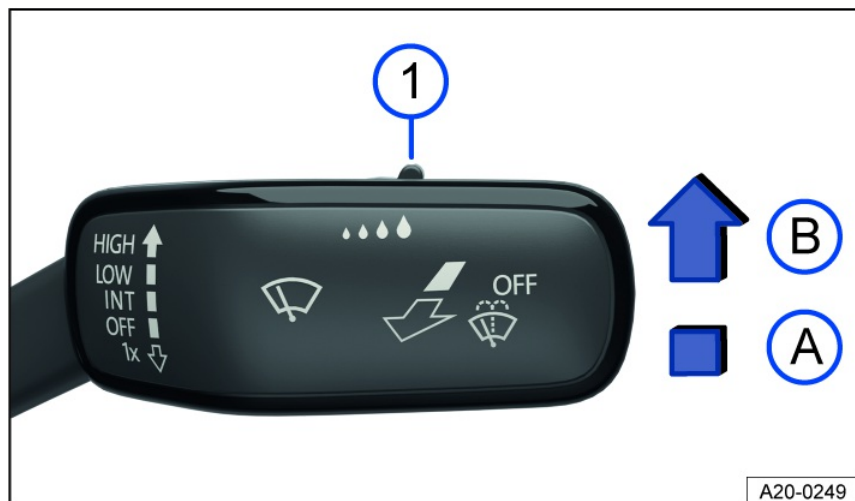

Fig. 83 On the right side of the steering column: windshield wiper lever.
1. Press the lever into the desired position fig. 83.
The sensitivity of the rain/light sensor can be manually adjusted with the switch in the windshield wiper lever fig. 83, ⇒ ⚠.